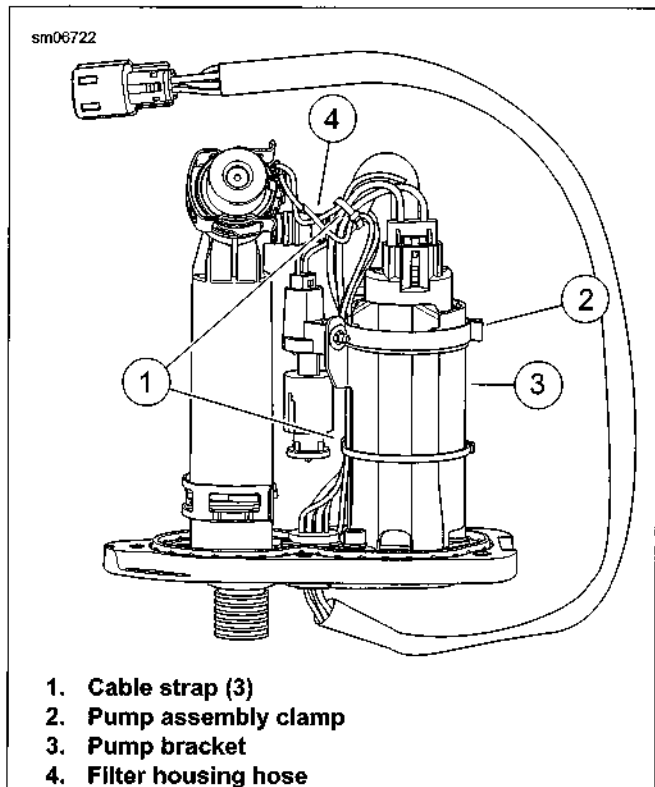

Figure 4-47. Fuel Pump Cable Straps and Pump Clamp
See Figure 4-47. Note positions of wiring harness cable straps (1) and pump assembly clamp (2).
1. See Figure 4-47. Remove cable strap (1) securing wiring harness to the filter housing hose (4).
1. See Figure 4-47. Record location of any cable straps securing wiring harness to fuel pump bracket (3). Remove cable straps.
1. See Figure 4-47. Record location of cable strap (1) securing low fuel level sensor connector to filter housing hose (4). Remove cable strap.
2. Plug fuel pump/sender harness connector (15) into low fuel level sensor (17).
3. See Figure 4-47. Secure low fuel level sensor connector and fuel pump/sender harness to filter housing hose (4) with cable strap (1).
2. Install low fuel level sensor assembly (17) onto pump bracket. Secure with push nut (16).
3. Install fuel pump assembly (2) with pump insulator (3) onto pump bracket.
4. Secure with pump assembly clamp (7).
5. Install filter housing hose (11) on top of fuel pump. Secure with clamp (1).
6. Plug in fuel pump harness connector [86] (13).
7. See Figure 4-47. Secure fuel pump/sender harness to fuel pump bracket (3) with cable straps (1).
6. Install filter housing hose (11) on top of fuel pump (2). Secure with clamp (1).
7. Install ground clip (12) on top of filter housing.
8. See Figure 4-47. Secure fuel pump/sender harness to filter housing hose (4) with cable strap (1).